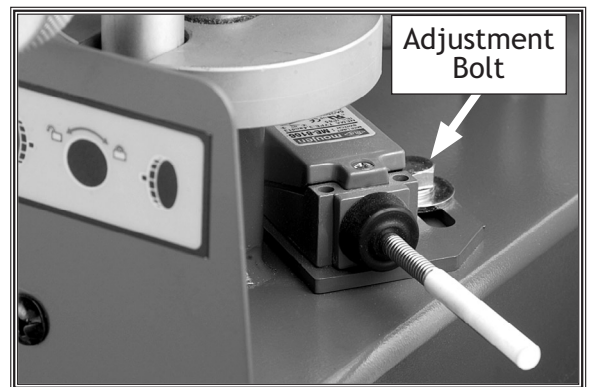

Figure 56. Tracking safety switch adjustment bolt.
Sanding belt tracking safety switches are placed on both sides of the belt to act as emergency machine stops if the belt travels too far to one side during oscillation (see **Figure 56**).
5. Loosen the adjustment bolt shown in **Figure 56**, and move the switch so the belt and the ceramic rod have approximately 1/2" clearance from each other.